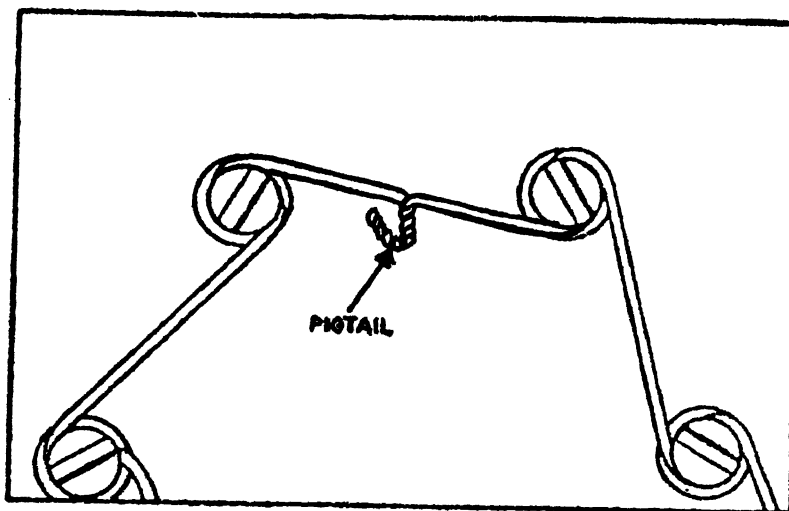

FIGURE 20
STEP 8: Grasp the tip of the wire with the diagonal cutting pliers and roll the end back toward the plate to form a pigtail. See figure 20.